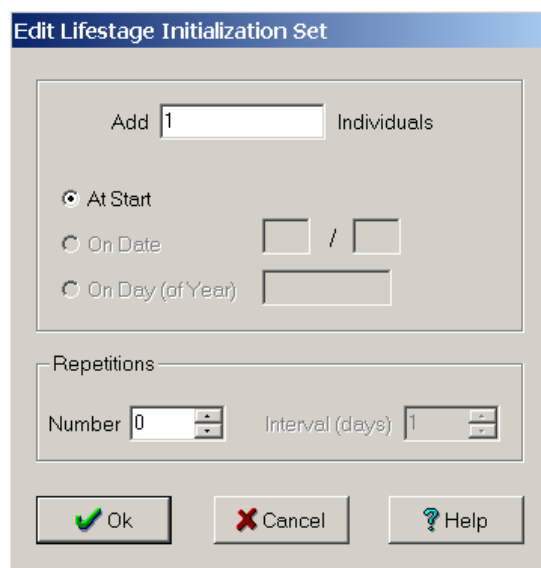

Figure 1-16 The “Edit Lifestage Initialization Set” dialog box
3. Select the **“New”** button in the **“Initialize Lifestage Numbers”** selection box to open the **“Edit Lifestage Initialization Set”** dialog box (Figure 1-16).